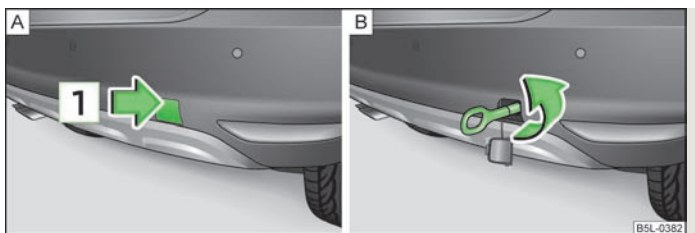

Fig. 166 Rear bumper: Removing the cap/installing the towing eye
- Press on the upper half of the cover in direction of arrow  » Fig. 166.
- Remove the cap from the rear bumper » Fig. 166 - .
- Screw in the towing eye by turning to the left up to the stop » Fig. 166 -  and tighten as much as possible. For tightening purposes, we recommend, for example, using the wheel wrench, towing eye from another vehicle or a similar object that can be pushed through the eye.